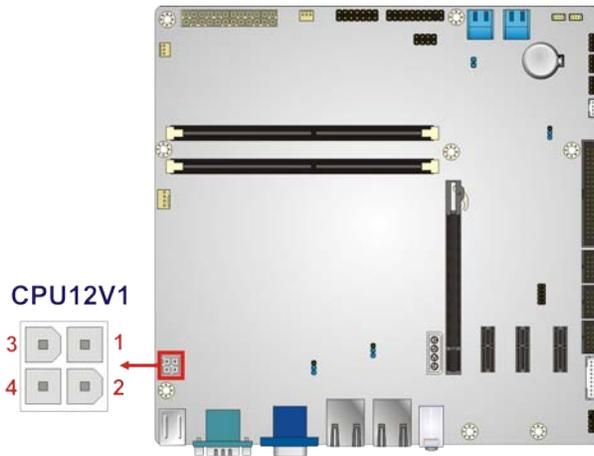

Figure 3-5: CPU Power Connector Location
- CN Location: See **Figure 3-5**